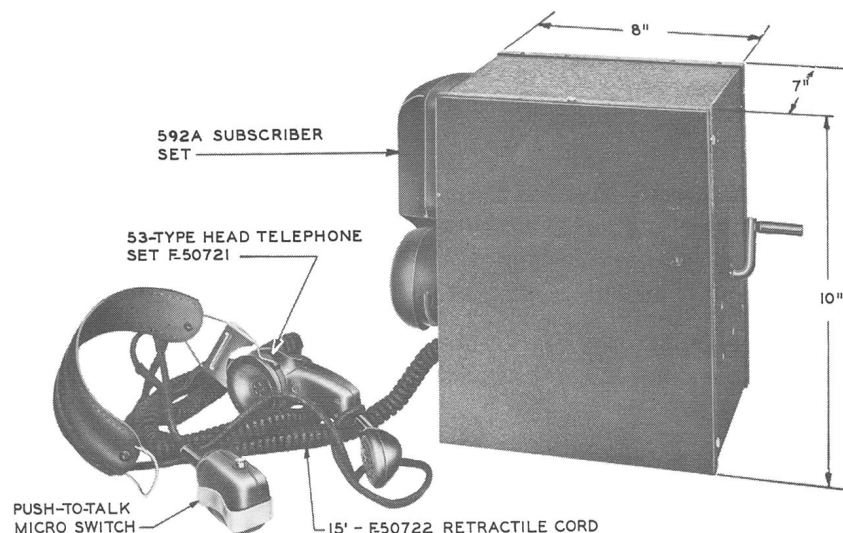

Fig. 1 — F-50682 Telephone Set
2.01 This set is used by ground observer posts for transmitting calls over private line facilities to the Air Force Filter Centers (see Fig. 1). It consists essentially of an 8- by 10- by 7-inch black finished, metal box in which is mounted a KS-13766 hand generator having a crank shaft which projects through the right side of the box; a 274L and a 274AJ retardation coil; a 181B induction coil; a 3B varistor; an F-50917, a 511D, and a 5BA capacitor; and two 10-141 Jones terminal strips.